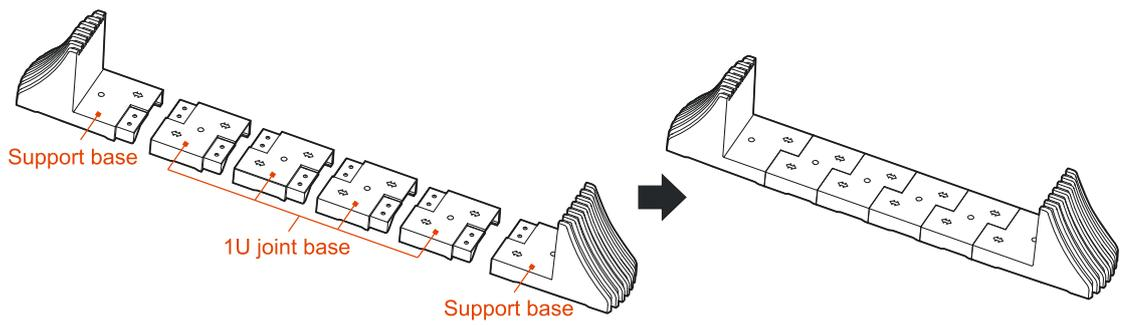

Figure3-6 Assemble support base
Step 1 Take out a pair of support base and other 1U joint bases, assemble them together, as shown in Figure 3-6.